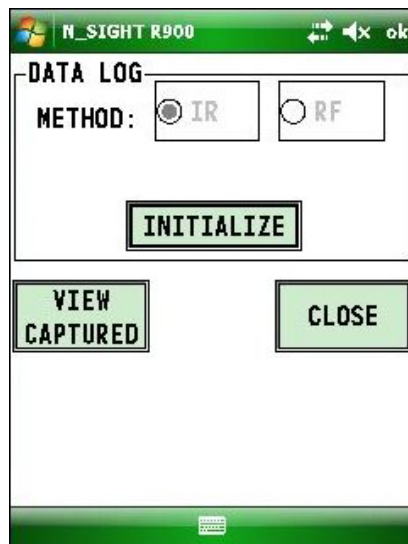

Figure 7.10 Initialize Device Screen
- 1 On the Initialize Device screen, click **INITIALIZE**. See Figure 7.10.